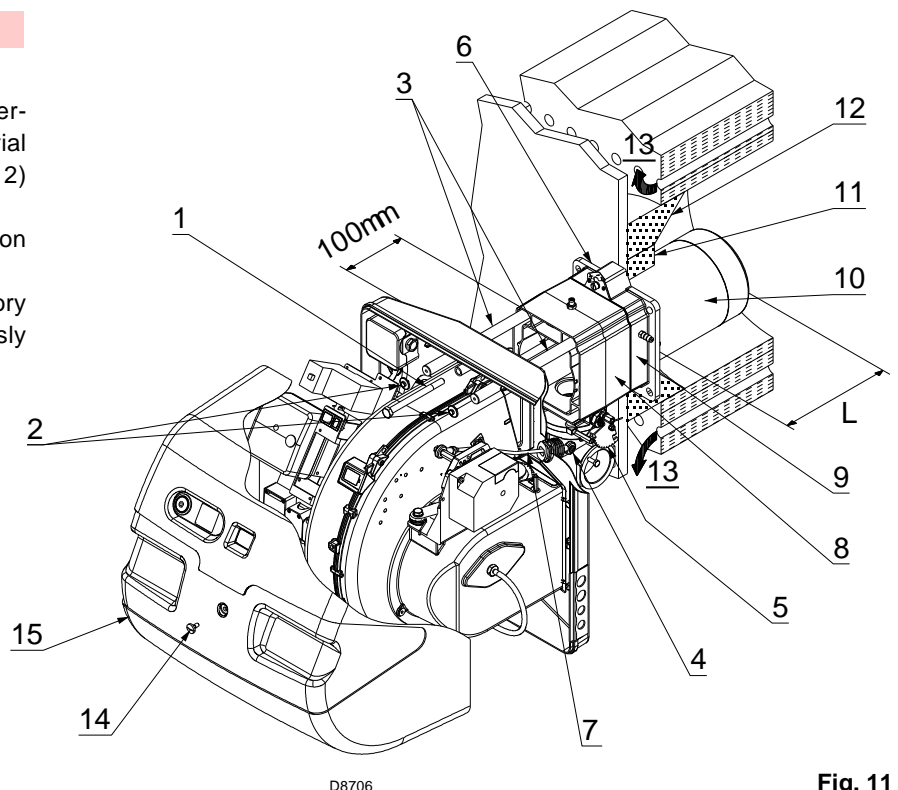

Fig. 11
This protection must not compromise the extraction of the blast tube. See Fig. 11.
Separate the combustion head from the rest of the burner, Fig. 11.
Once this operation has been carried out, fix the flange 9)(Fig. 11) to the boiler plate, interposing the insulating gasket 6)(Fig. 11) supplied.
- reassemble the burner 4) on the slide bars 3) at about 100 mm from the pipe coupling 5) - burner in the position shown in Fig. 11;